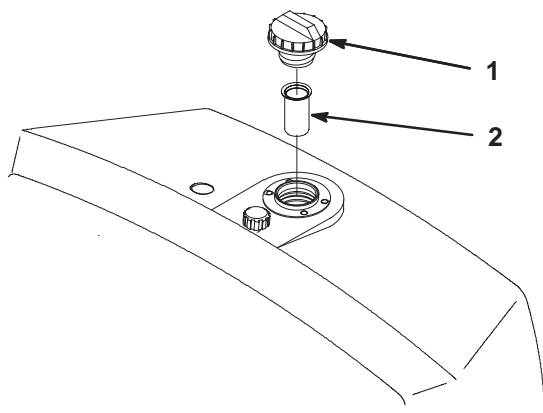

Figure 21
2. Remove the cap from the reservoir and check the level of fluid. The fluid should be up to the bottom of the screen in the filler neck (Fig. 21).